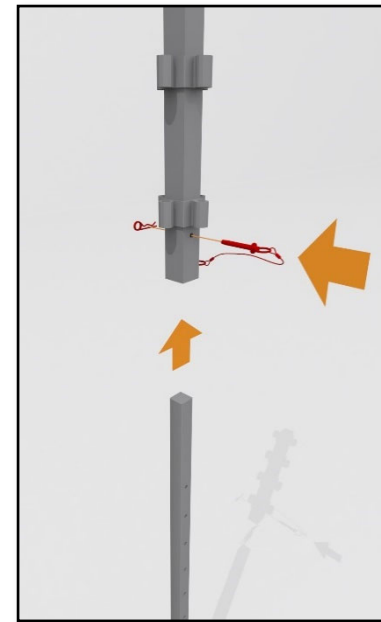

Fig. 13 – Pin Telescopic Leg to Node Post
9.1.1.4 Refit the pin through the Node Post hole and keep in place with the R-clip. Failure to do so could cause the pin to work loose and fall out. *Fig. 13 – Pin Telescopic Leg to Node Post*